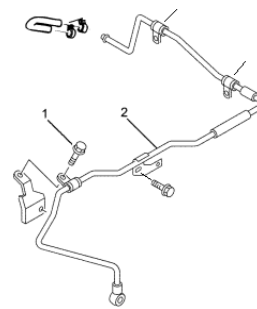

Figure 8
10. Disconnect the water return pipe and bracket from the turbocharger and the cylinder head (see Figure 8).